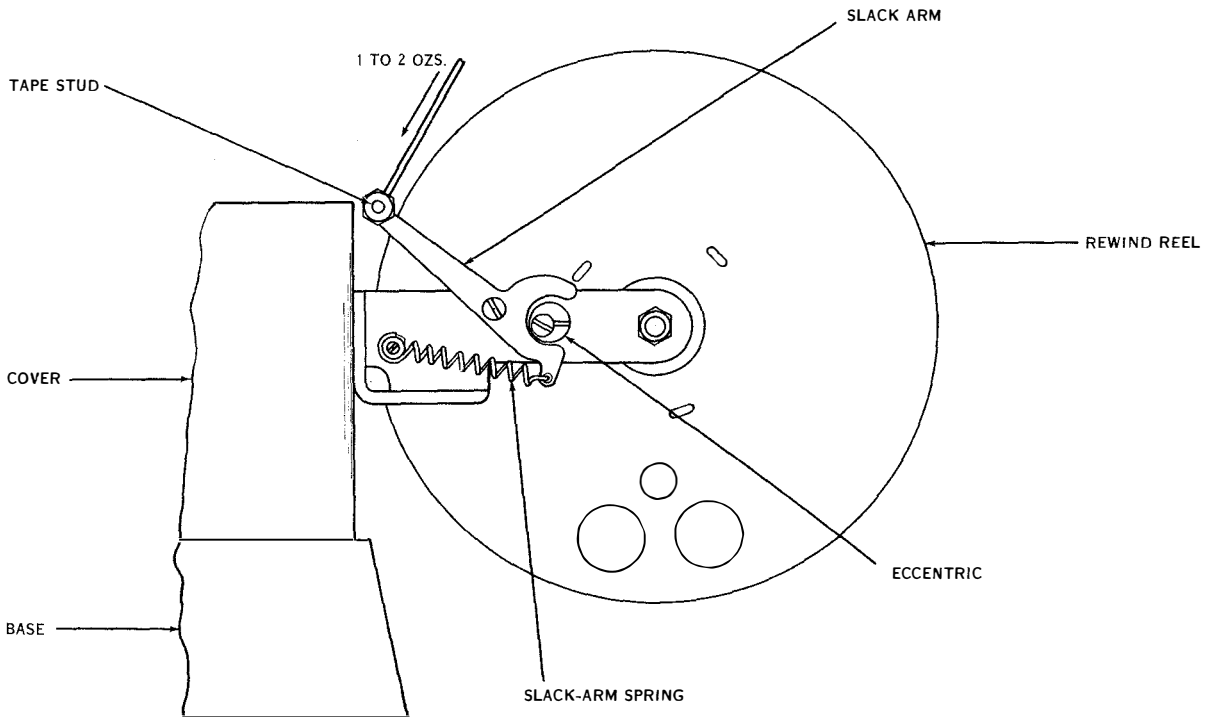

Figure 7-113. Rewind Reel Slack Arm Spring Tension
(20) REWIND REEL SLACK ARM. (See figure 7-113.)—When operated, the slack arm should not touch either the cover or the rewind reel. To adjust, rotate the eccentric.
(21) REWIND REEL SLACK ARM SPRING TENSION. (See figure 7-113.)—With an eight-ounce push scale applied to the tape stud and pushed horizontally, a pressure of one to two ounces should be required to start the arm moving.